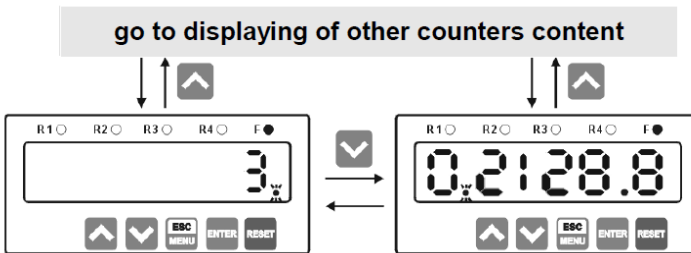

Figure 6.3. Selection between less and more significant half of the totalizer
To change displayed half, press [v] button. When more significant half is showed on the display, it's most right decimal point flashes. Described situation is showed in Figure 6.3:
In Figure 6.3 is showed situation, where totalizer value is equal to 302128.8. Most significant digit (3) must be displayed in more significant half, the rest of the digits can be displayed in less significant half. Because of totaliser's content must be displayed into two halves, zero on left side of less significant half is displayed, and most left decimal point flashes signalling that more significant half is available. Simultaneously right decimal point (between eights) lights constantly, indicating decimal point position.